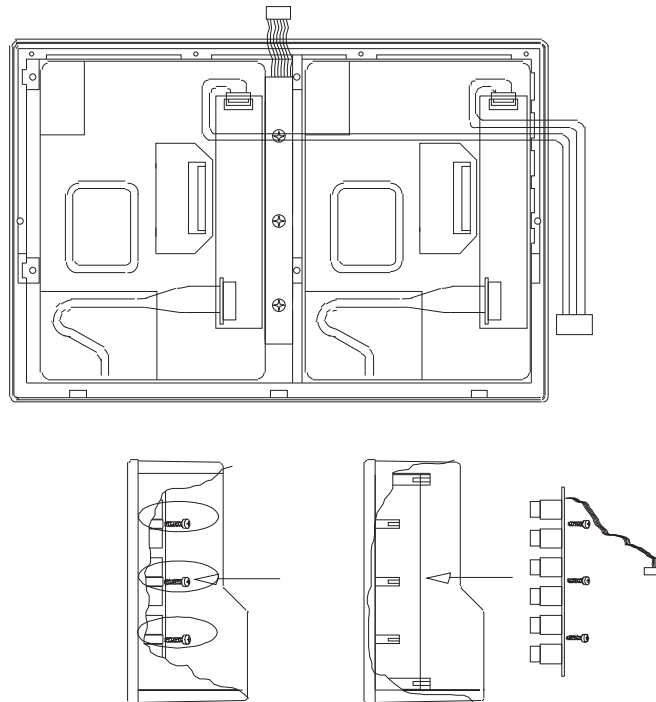

Fig. 8-8: Installation of switch pcb
11. Place switch pcb inside the new display unit and fix them by the use of stored screws. (fig. 8-8)